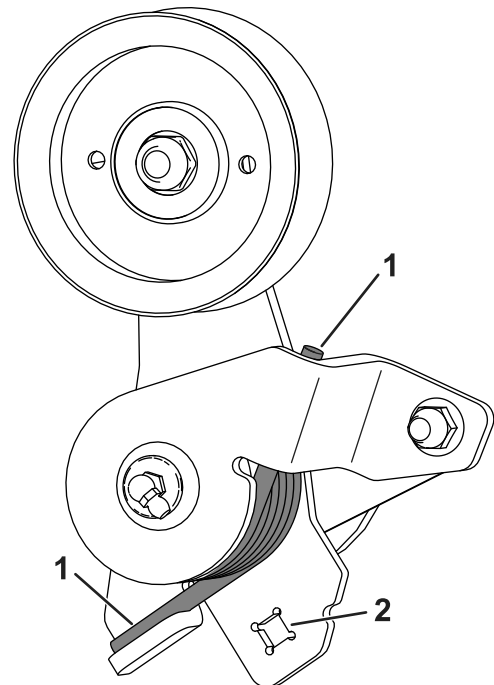

Figure 7
4. Install the install the spring ends as shown in Figure 7.
5. Using a ratchet (3/8 inch) in the square in the idler arm, rotate the idler arm and install the belt around the idler pulley (Figure 7).